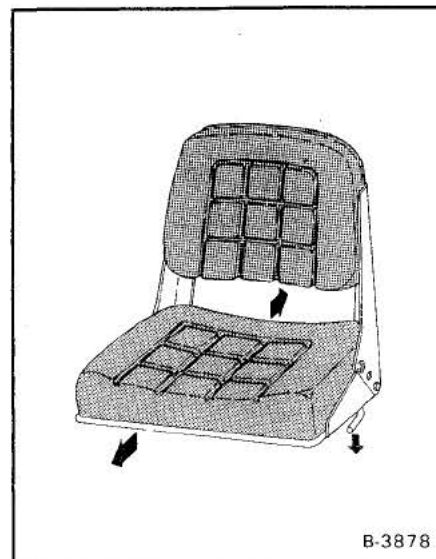
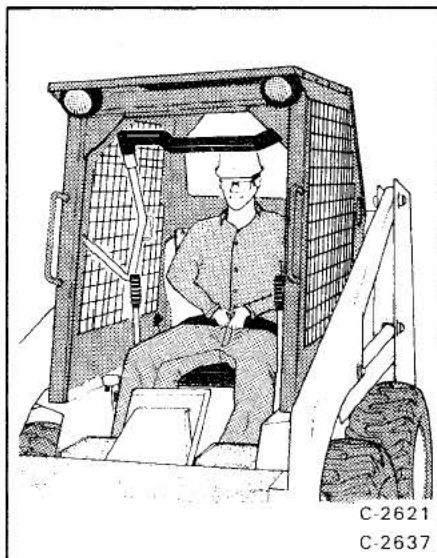
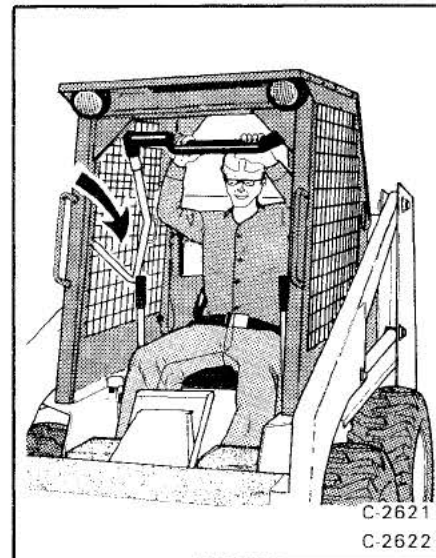

Fig. 2 Seat Adjustment
Fig. 3 Fasten Seat Belt
Fig. 4 Lower Seat Bar
2. Adjust the seat position for easy operation of the loader (Fig. 2). Adjust and fasten the seat belt (Fig. 3) and lower the seat bar (Figs. 4, 5 and 6). Check that the parking brake is engaged before you start the engine.